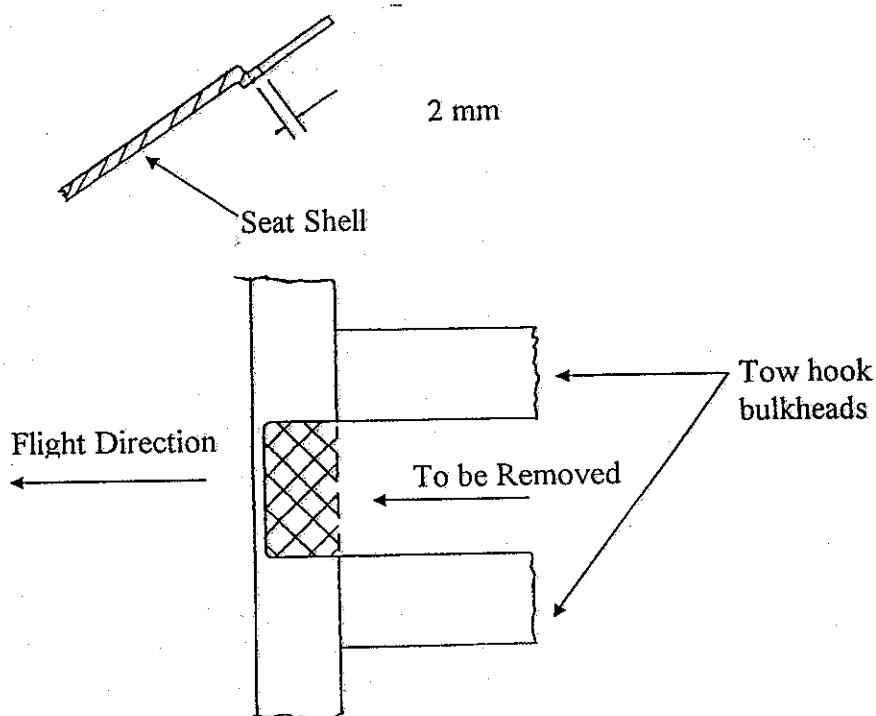

FIGURE 1 RELEASE CUT OUT
1. *SIMPLIFIED CG RELEASE REMOVAL.* The relatively small access hole for the belly release makes removal of the release at each annual inspection difficult. The cut out in the seat shell can be enlarged in accordance with Figure 1 to make removal of the release easier.